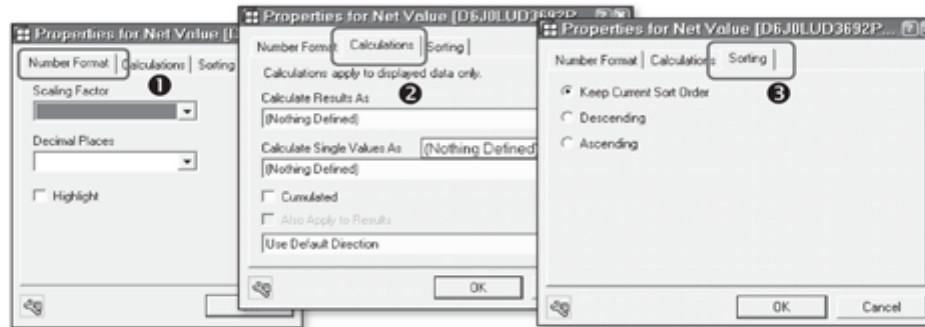

Figure 10.19 Maintaining Key Figure Properties
The properties dialog for a key figure consists of three different tabs: Number Format, Calculations, and Sorting (Figure 10.19).
The Number Format tab page contains the settings that correspond to the display behavior of the selected key figure (❶ of Figure 10.19). These settings include the scaling factor, decimal places, and highlighted display-related settings.